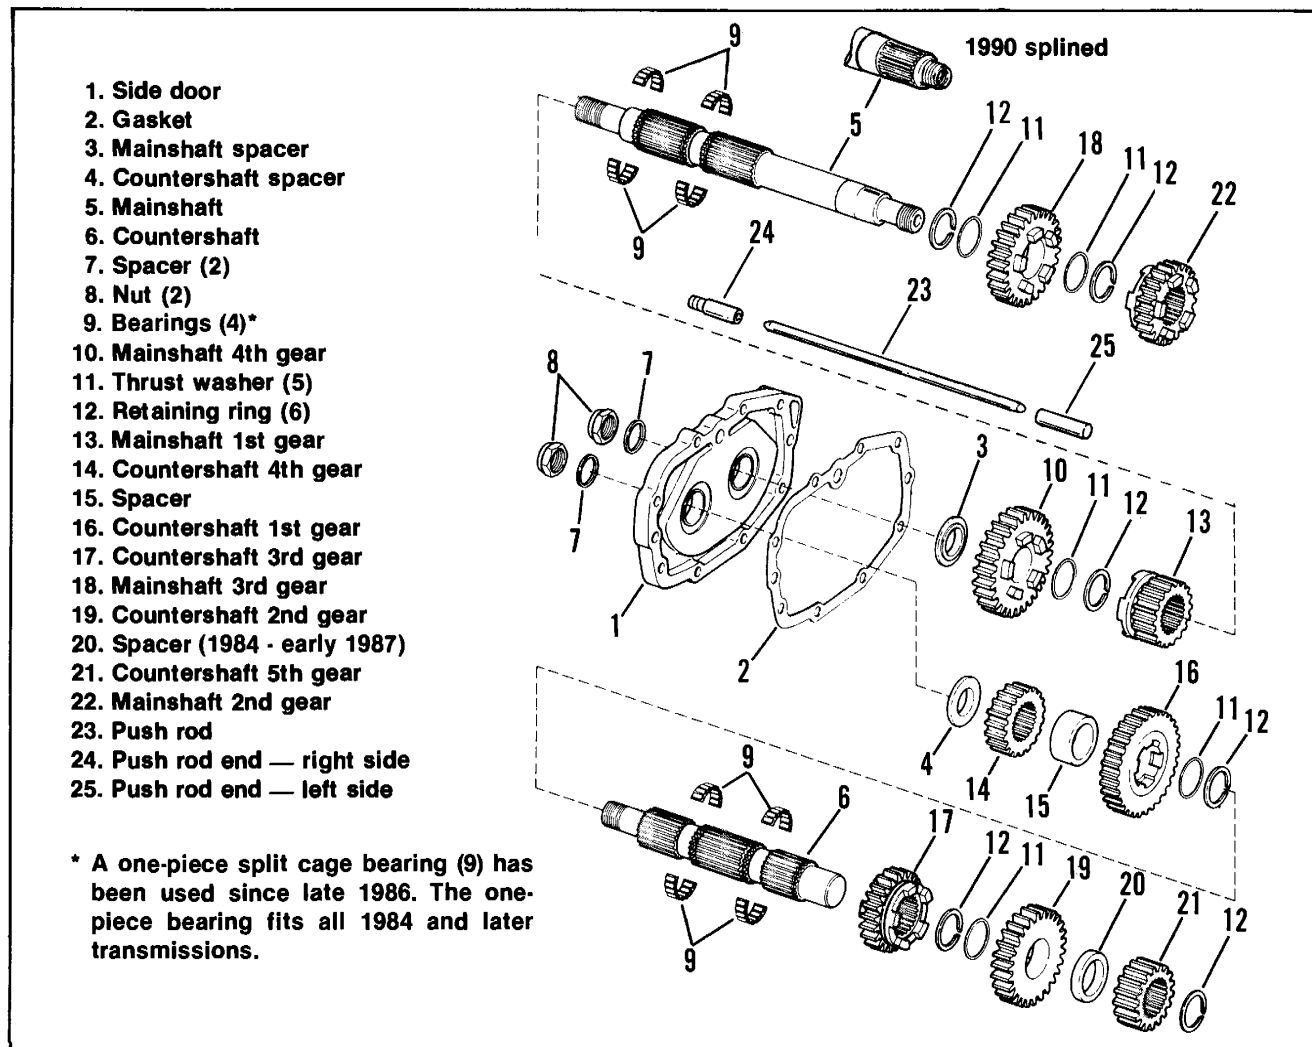

Figure 7-15. Side Door, Mainshaft and Countershaft
1. See Figure 7-15. Remove the three-piece push rod (23, 24 and 25) from the hole in the mainshaft.
2. With access door on end (shafts pointing upward), remove the retaining ring (12) from the countershaft (6) and remove the countershaft 5th gear (21), spacer (20) and countershaft 2nd gear (19).
3. See Figure 7-15. Remove the upper retaining ring, thrust washer (11), mainshaft 3rd gear (18), bearings and retaining ring.
4. Support countershaft 1st gear (16) and press out countershaft (6).
1. See Figure 7-15. Slip spacers (11) and retaining rings (12) on the mainshaft (5) and countershaft (6). Slip mainshaft 4th (10) gear on mainshaft and countershaft 1st gear (16) on countershaft.
2. Lightly coat bearings (9) with oil and install the bearings on the mainshaft (5) bottom race. Slide mainshaft 4th gear (10) over the bearings. Install one thrust washer (11) on top of the gear and secure with a retaining ring (12). Install mainshaft 1st gear (13) with the shifter fork slot facing the side door.
3. Slide countershaft 4th gear (14) and spacer (15) on to the countershaft (6).
4. See Figures 7-15, 7-18. Place bearing in countershaft race and install the countershaft 1st gear (16)
5. See Figure 7-15. Slip spacers (7) on the shafts with the tapers facing the access door bearings. The mainshaft spacer has a shoulder while the countershaft spacer does not.
7. Install one spacer (7) and nut (8) on each shaft and tighten the nuts finger tight. Final tightening is performed in step 13.
8. See Figures 7-15 and 7-19. Install countershaft 3rd gear (17) with shifter fork slot facing away from the side door.
9. Install a retaining ring (12) in the mainshaft groove just above 1st gear. Insert a thrust washer (11) on top of the retaining ring and place the bearings into the mainshaft race. Place mainshaft 3rd gear (18) over bearings and secure 3rd gear with a thrust washer (11) and retaining ring (12).
13. See Figure 7-15. Install the assembly in the transmission case using a new gasket (2). Tighten 5/16 in. mounting hardware to 13-16 ft-lbs torque and 1/4 in. screws to 7-9 ft-lbs torque.